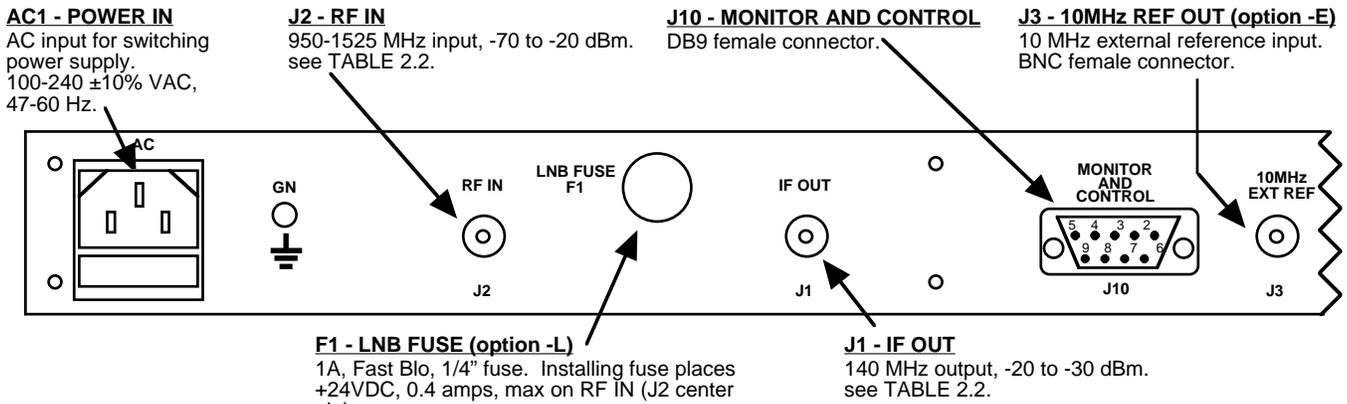

FIGURE 2.2 2016-05 Rear Panel I/Os
2.2 Rear Panel Input/Output Signals - Figure 2.2 shows the input and output connectors on the rear panel.
1. Connect a -20 dBm to -70 dBm signal to RF IN, J2 (Figure 2.2)